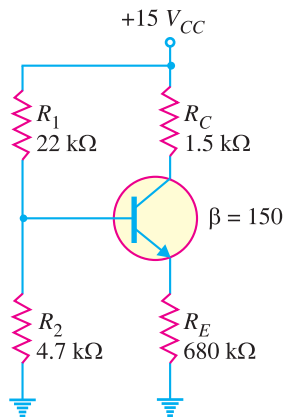

Fig. 9.56
15. What is the minimum value of β in Fig. 9.56 that makes $R_{in(base)} \geq 10 R_2$? [69.1]